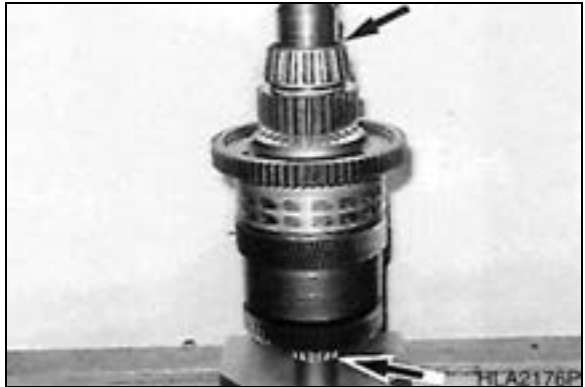

Figure 215
- Preload complete clutch pack through both inner bearing races (Figure 215) with 100,000 N (10 ton) In this way, an exact contact of components, resp. the setting of the complete bearing is ensure.